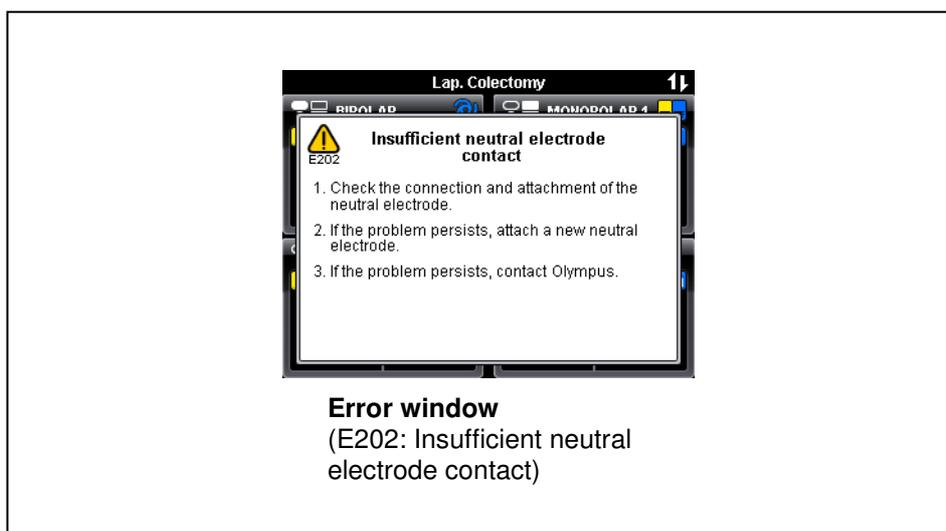

Figure 4.9
2. Confirm that an error window (E202, see figure 4.9) is displayed and an audible signal can be heard.